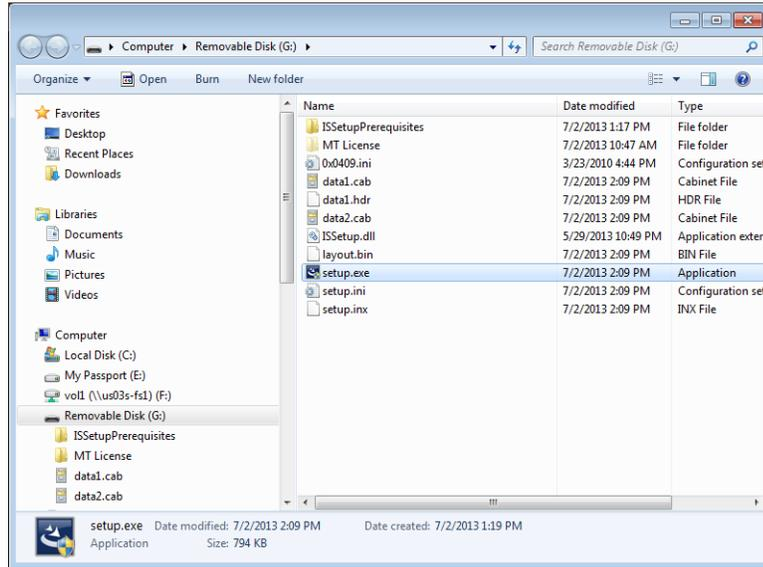

Figure 1-2: USB Contents Displayed in Explorer
- The files on the memory drive will be shown in a Windows Explorer window (Figure 1-2). To start installation of WeighSync, double click setup.exe.